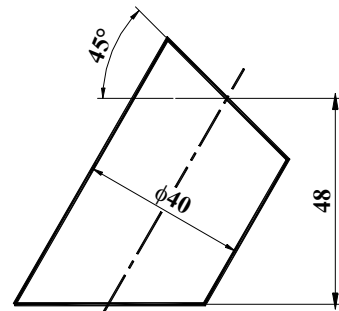

Figure T9.3
3. Develop the lateral surface of a cylindrical piece shown in Figure T9.3.